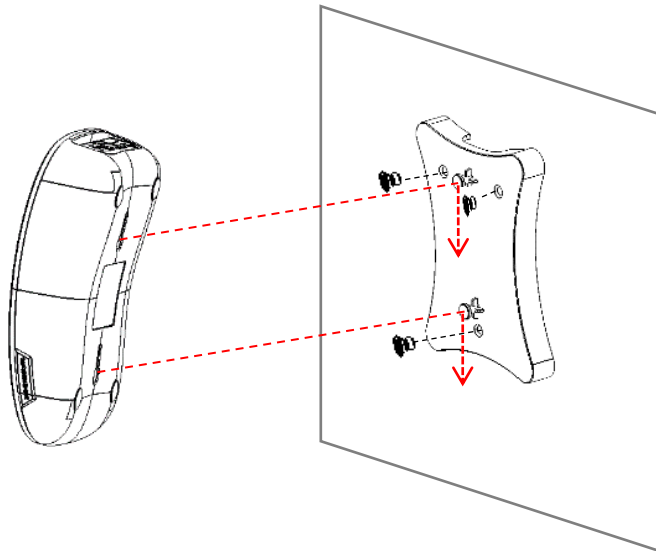

Figure 2-1. S1 Gateway
- ❶ Select a proper space to drill 3 holes upon the mounting holes of the wall-mount bracket shipped with the package.
- ❷ Insert the screws supplied through the wall-mount bracket and into the holes on the wall.
- ❸ Tighten the screws with the screwdriver to secure mounting brackets to the wall.
- ❹ Lock downward carefully to secure S1. (See the arrow of Fig. 2-1)
- ❺ Arrange and hide cables under the bottom notch of the bracket if needed.